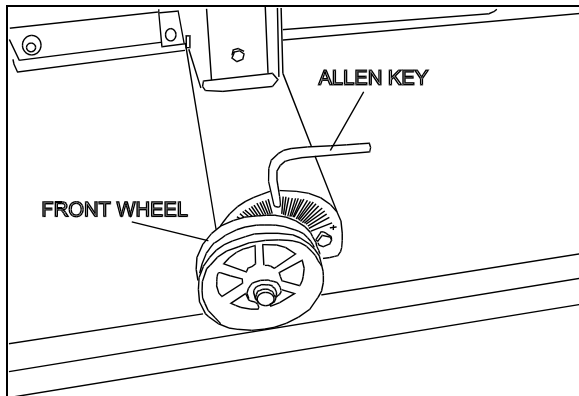

FIGURE 28: ADJUSTING HOOPY 100 LEVEL 06498
6. Using an Allen key on the front wheel, level Hoopy 100 aligner until spirit level bubble is centered (Fig. 28 and 29).